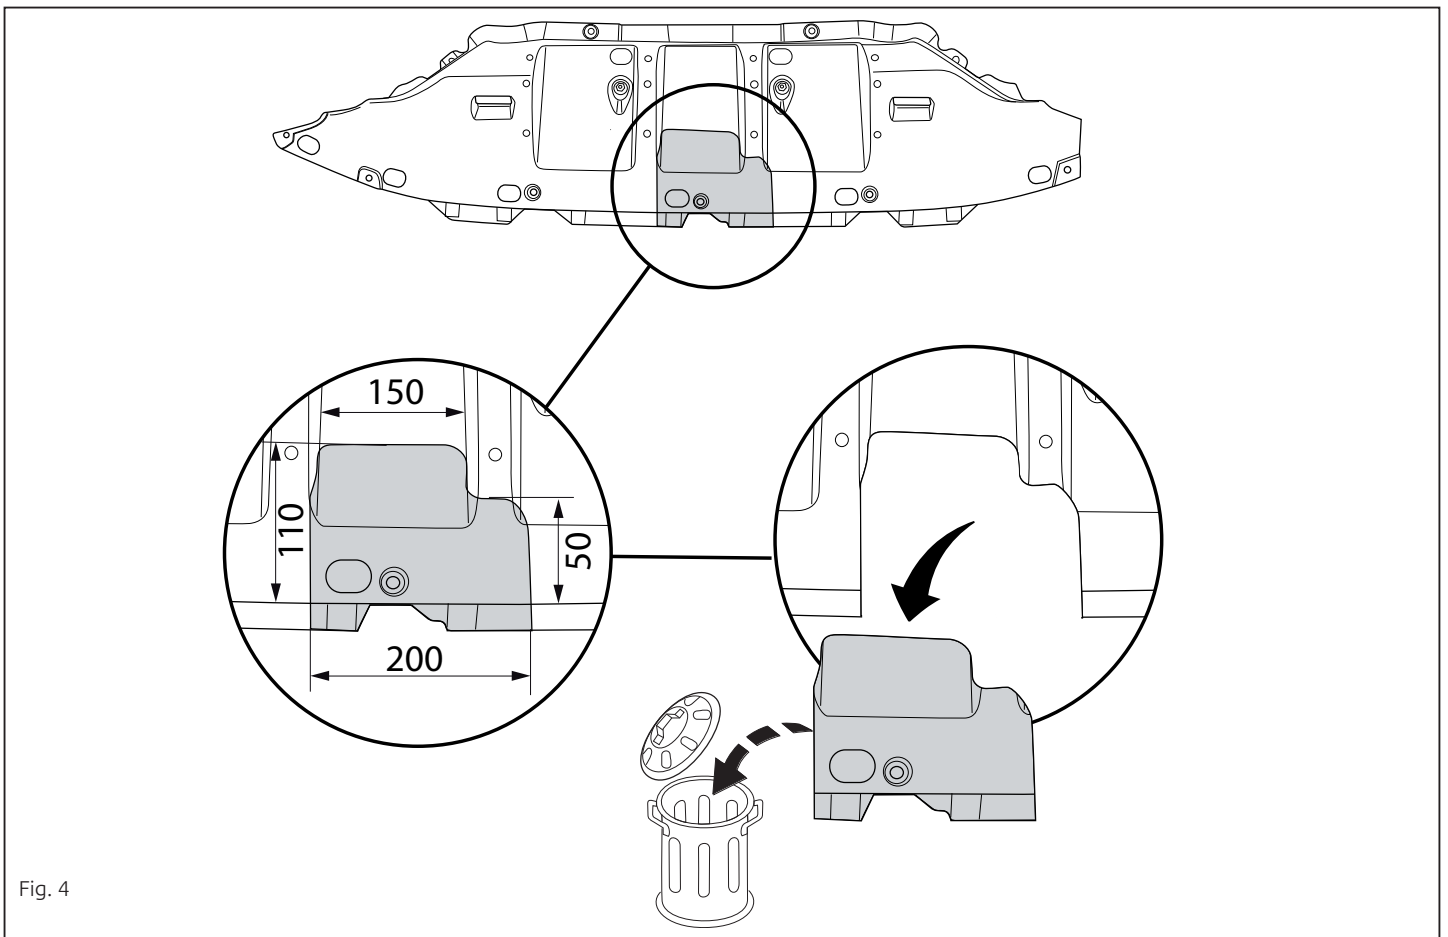

Fig. 4
10. Saw a section out of the middle of the underside of the plastic protective container as shown in fig 4.